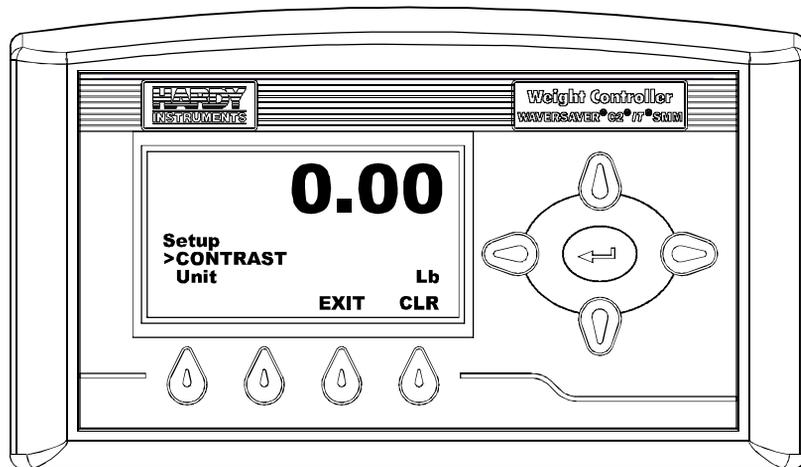

FIG. 115 SETUP MENU/SELECTING CONTRAST
Step 1. Press the Down Arrow button until the cursor is in front of CONTRAST. (See Fig. 115)